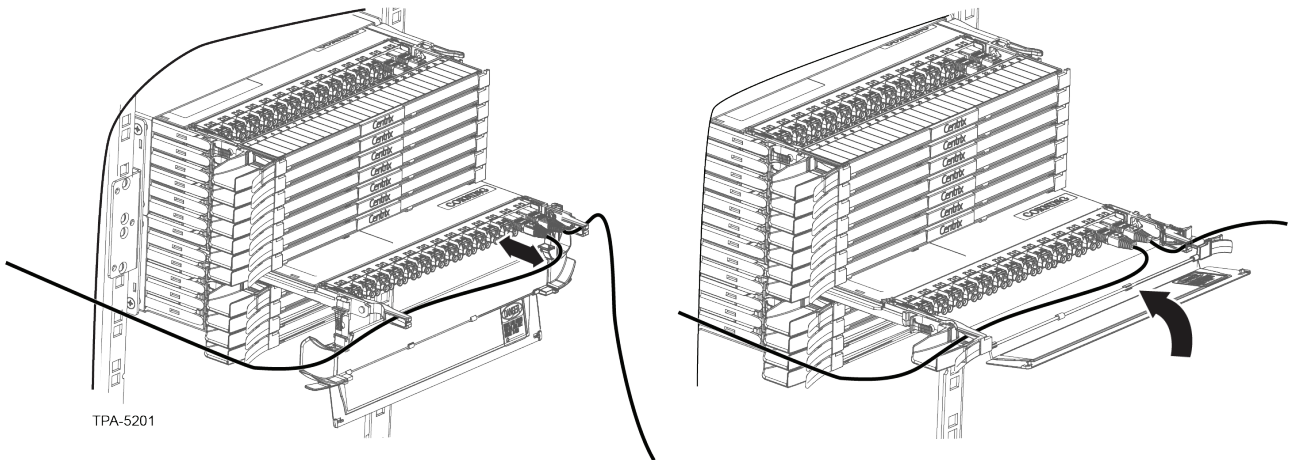

Figure 14
Step 5: Mate connectors into the adapters (Figure 14).